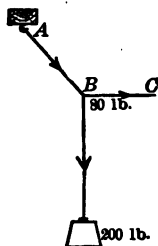

FIG. 108. — Component of force.
12. A weight of 200 lb. is supported by a rope. If the rope is drawn aside along BC, Fig. 108, by a force of 80 lb., find the tension on the rope AB.